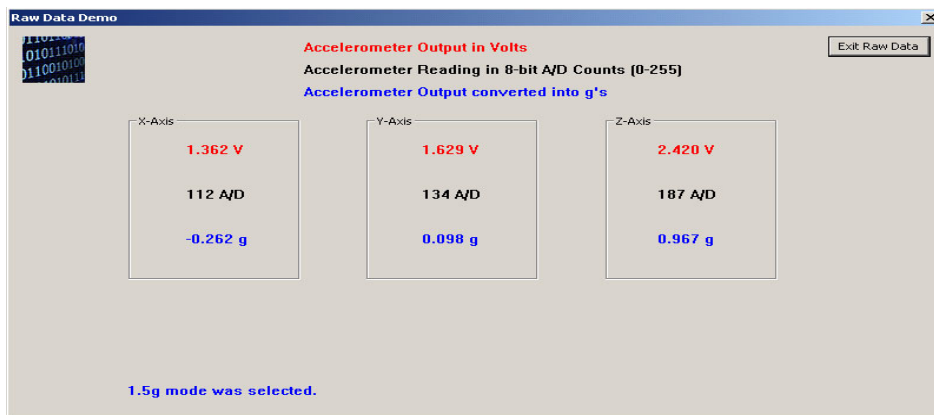

Figure 29. Raw Data Demonstration
1. Check for the ping packet. The Accelerometer application sends a ping packet to the PC_Radio every two (2) seconds as indicated by LED2. The Accelerometer Board quickly blinks LED2 indicating that the ping packet is sent. The PC_Radio receives the ping and toggles LED2 upon reception. Once connectivity between the PC_Radio and the Accelerometer Board is verified, go to Step 2.
4. Select the Raw Data applet from the Triax application. The Raw Data applet shows the X, Y, and Z axes A/D values as reported by the Accelerometer Board. When the board is laying flat, the raw values should read approximately 0g for both the X and Y axes. However, the Z axis should read approximately 1g. As shown in Figure 29, when the Accelerometer Board is moved, the values of the X, Y, and Z axes are updated on the Raw Data applet.